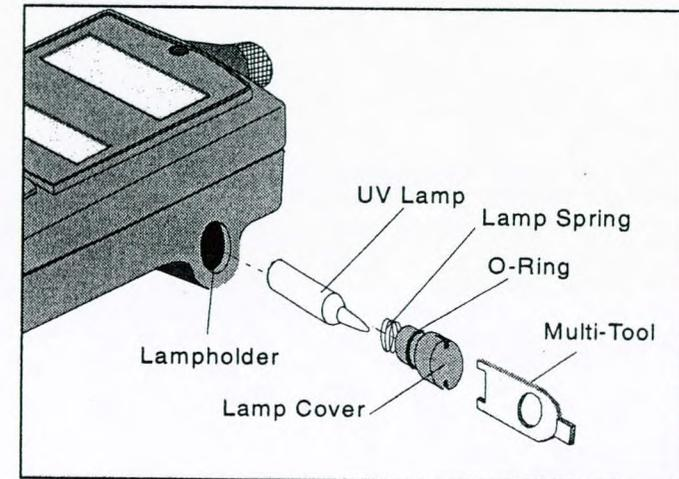

Figure 20 Removing the UV Lamp
5. Without touching the lamp window, place the new lamp into the 2020 lampholder, window first. See Figure 20.